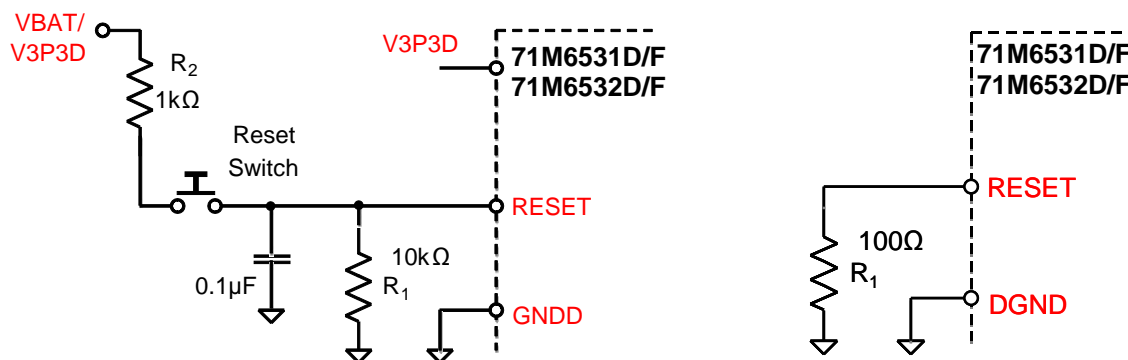

Figure 38: External Components for the RESET Pin: Push-button (Left), Production Circuit (Right)
Even though a functional meter will not necessarily need a reset switch, it is useful to have a reset push-button for prototyping as shown in Figure 38, left side. The RESET signal may be sourced from V3P3SYS (functional in MISSION mode only), V3P3D (MISSION and BROWNOUT modes), or VBAT (all modes, if a battery is present), or from a combination of these sources, depending on the application.
For a production meter, the RESET pin should be protected by the external components shown in Figure 38, right side. R1 should be in the range of 100  $\Omega$  and mounted as closely as possible to the IC.
- ✓ Since the 71M6531 generates its own power-on reset, a reset button or circuitry, as shown in Figure 38, is only required for test units and prototypes.